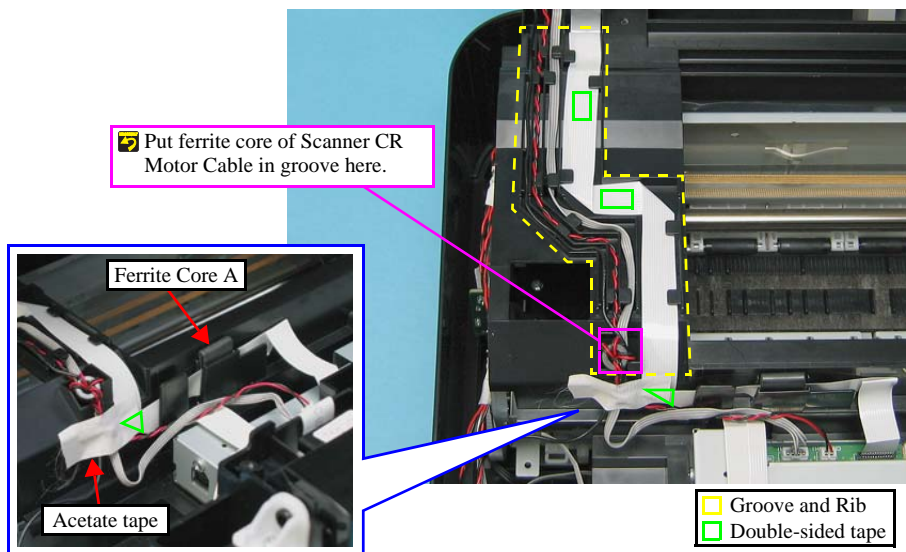

Figure 4-19. Removing the Scanner Unit (2)
- After routing the cables, put the ferrite core of the Scanner CR Motor cable in the groove of the Middle Housing. (See Figure 4-19.)
- After routing the cables, secure them with acetate tape and double-sided tape as shown in Fig. 4-19.